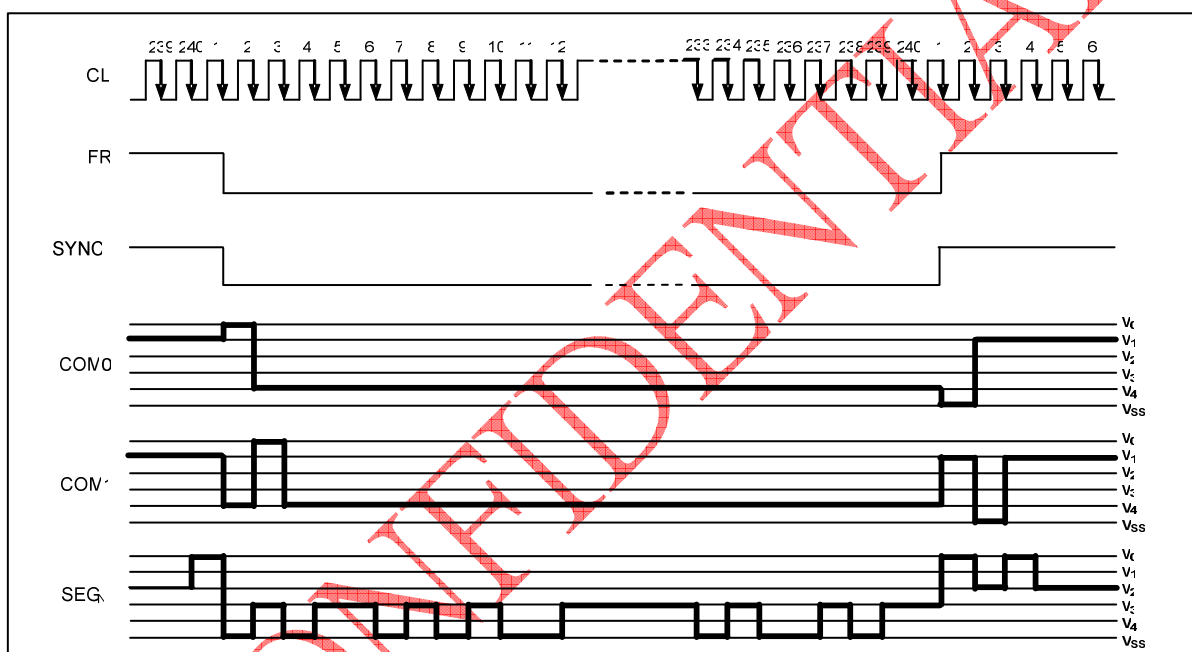
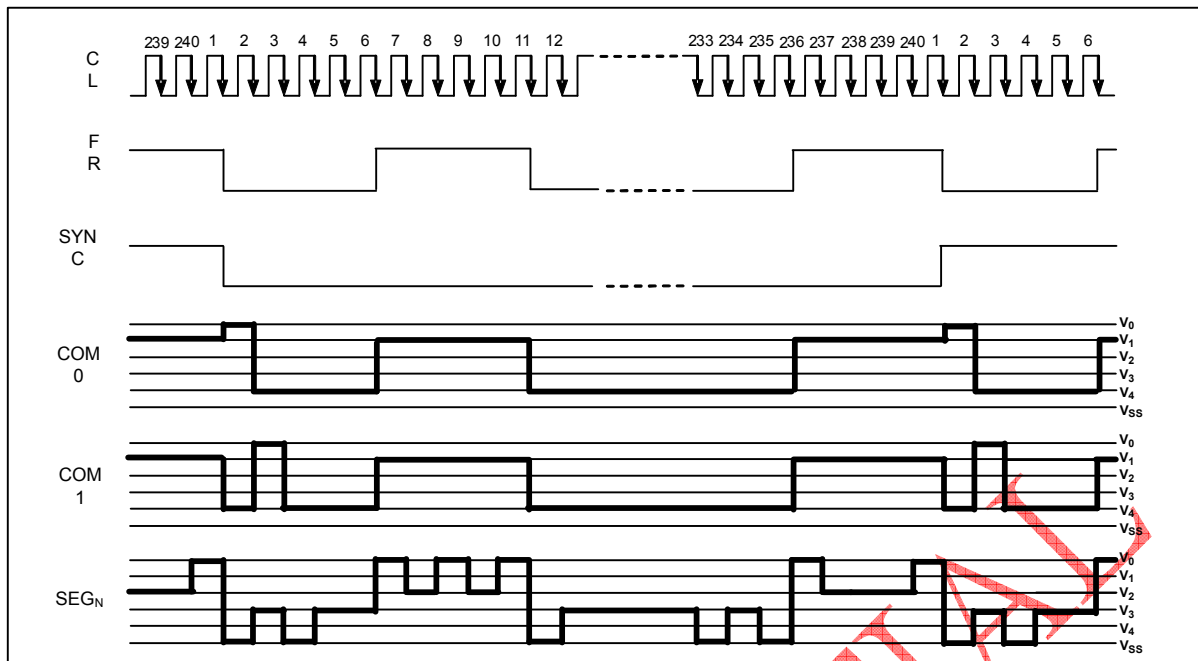

Figure 1. 2-frame Alternating Driving Waveform
Figure 2. n-line Reversal Alternating Driving Waveform
This circuit generates some signals to be used for displaying LCD. The display clock, CL generated by oscillation clock, generates a clock to the line counter and a latch signal to the display data latch. The line address of on-chip RAM is generated in synchronization with the display clock (CL) and the 320-bit display data is latched by the display data latch circuit in synchronization with the display clock. The display data which is read to the LCD driver is completely independent of the access to the display data RAM from the microprocessor. The LCD AC signal, M is generated from the display clock. 2-frame AC driver waveforms with internal timing signal are shown in figure 1. It can generate n-line reversal alternating drive waveforms by setting data (NW-1) to the n-line reversal drive register, the timing signal are shown in figure 2.